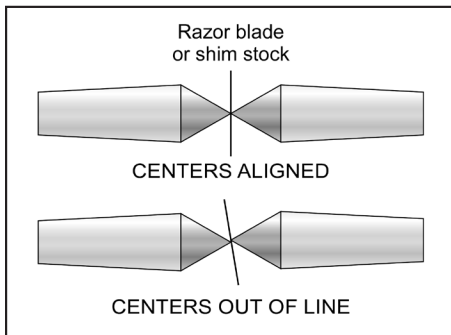

Figure 4-13 Quick alignment check
5. Place a scrap of hard shim stock or an old-style double-edge razor blade between the centers, Figure 4-13.